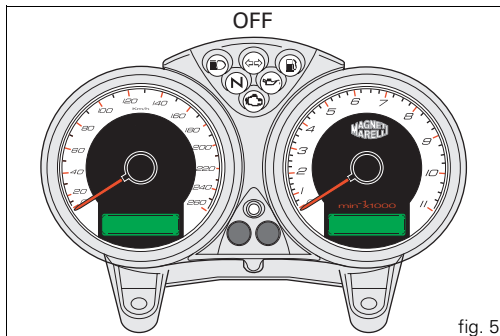
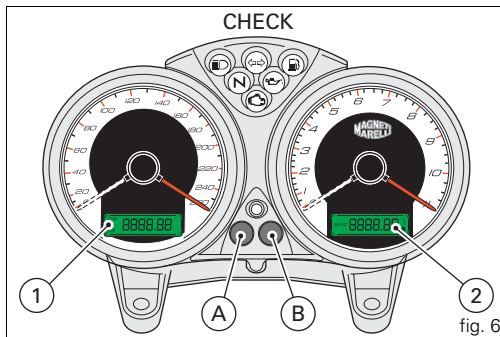

fig. 5
fig. 6
When the engine is switched on (key turned from **OFF** to **ON**), the instrument panel checks all instruments (dials, display, warning lights), see (fig. 5 and fig. 6).
By pressing button (A, fig. 6) with the key turned to **ON**, you can cycle between display of the trip counter and the odometer and, if the fuel level warning light is on, the fuel reserve trip counter.
If button (A, fig. 6) is held pressed for more than 2 seconds while the **TRIP** (trip meter) is active, the display is reset (LCD 1).
If button (B, fig. 6) is pressed with the ignition key at **ON**, the display shows the clock and the oil temperature.
Press (B, fig. 6) for at least 2 seconds and the time will be shown in display (2, fig. 6).
Select AM/PM by pressing button (A, fig. 6). Press button (B) to select the hour setting function. Press (A) repeatedly to change the hour indication. Press button (B) to change to the minute setting function.
When the fuel level warning light the word **"FUEL"** will appear on display (2, fig. 6) and the fuel reserve trip counter function will be activated and indicate on display (1, fig. 6) the number of kilometres travelled in reserve preceded by the letter **"F"** (FUEL).
The appearance of the message **"MAInt"** on the display (1, fig. 6) indicates that the recommended service interval has expired: this message will be displayed each time the key is turned to **"ON"** for a period of 5 seconds. When you see this message, you should contact your Ducati dealer or authorised service centre.
Press button (B, fig. 6) within 5 seconds after the ignition key is turned to the **ON** position to adjust the brightness of the backlight. The brightness changes at each press of the button.